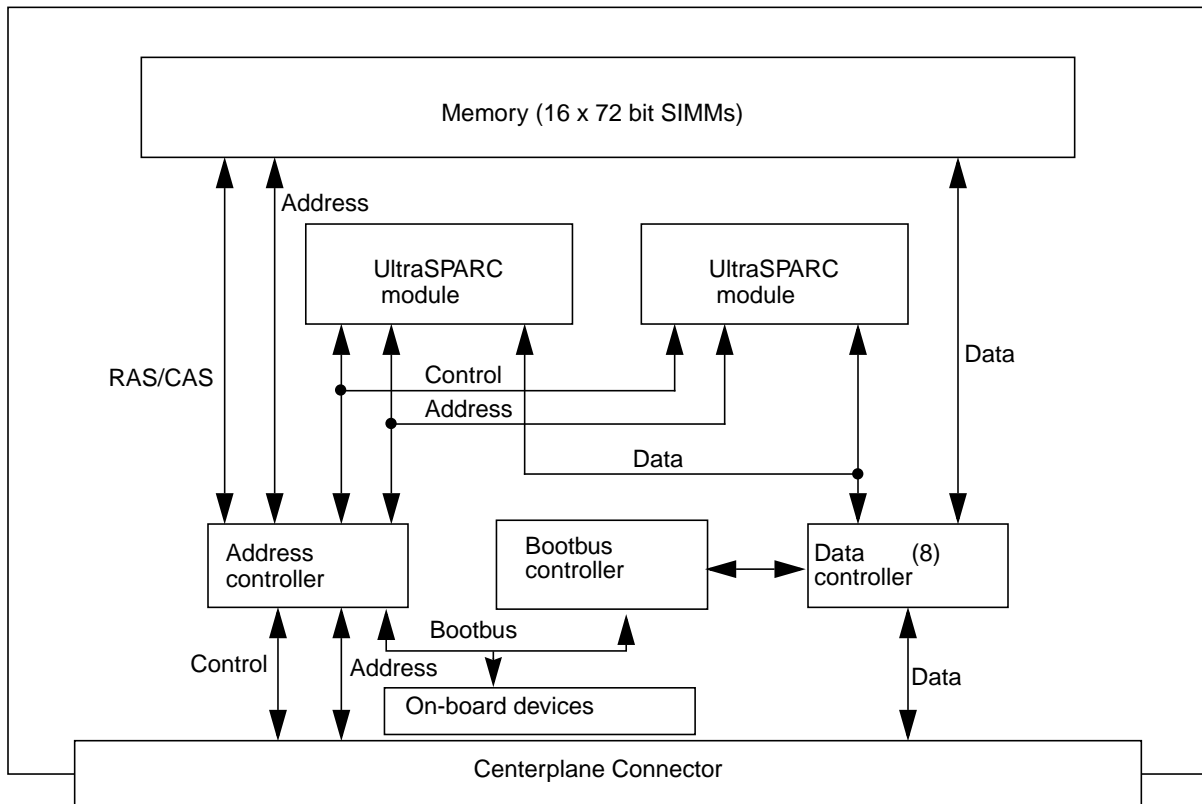

Figure 3-2 CPU/Memory Board Simplified Block Diagram
Figure 3-2 is a simplified block diagram of the CPU/Memory board. It includes an Address Controller (AC), 8 bit-sliced Data Controllers (DCs), a Bootbus Controller (BC), on-board devices (including a Flash PROM, and SRAM), two CPU processor slots, and slots for two memory banks of 8 SIMMs each.